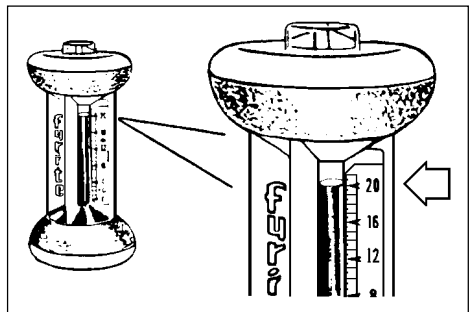

Figure 10
9. With FYRITE held upright (Fig. 10), permit fluid in column to stabilize a few seconds, then immediately read % carbon dioxide on scale at the point corresponding to top of the fluid column.
9. With FYRITE held upright (Fig. 10), permit fluid in column to stabilize a few seconds, then immediately read % oxygen on scale at the point corresponding to top of the fluid column.